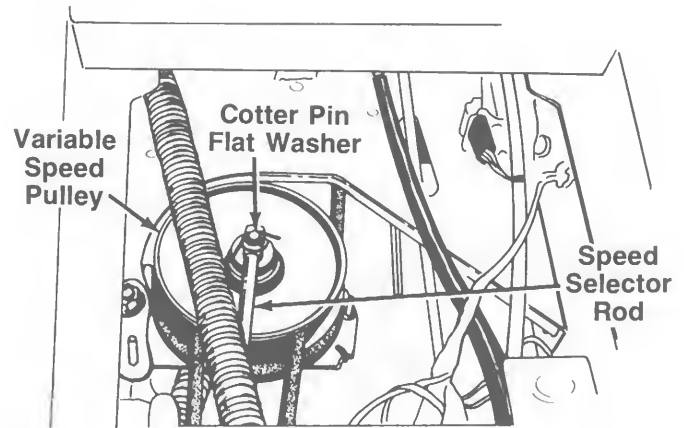

FIGURE 15.
8. Disconnect the speed selector rod from the variable speed pulley by removing the cotter pin and flat washer and lifting rod off the 3/8" pin. See figure 15.
2. Disconnect the speed selector rod from the variable speed pulley by removing the cotter pin and flat washer and lifting rod off the 3/8" pin. Refer to figure 15.